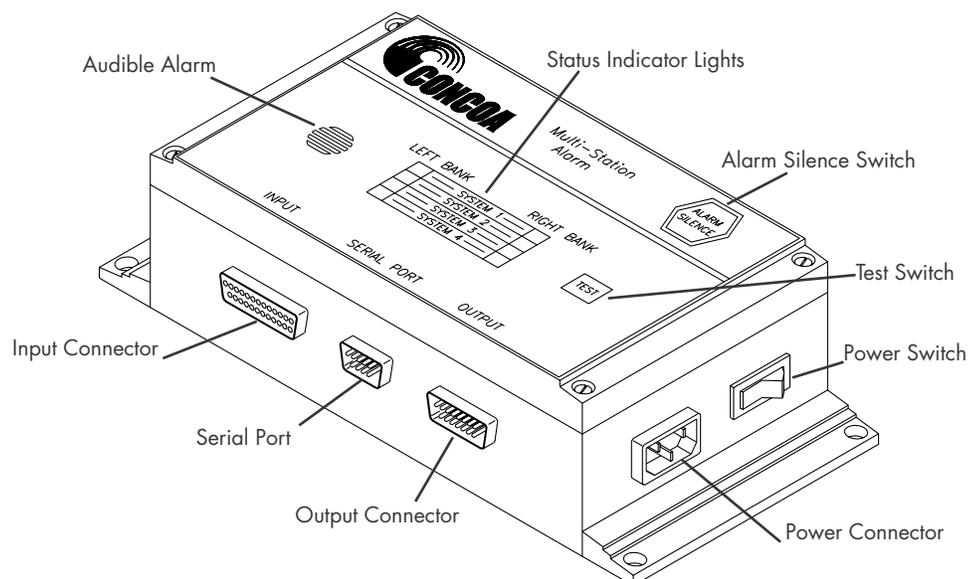

Figure 1
The front panel of the Remote Alarm consists of eight (8) status indicator lights, an “Alarm Silence” button, a “Test” button, and an audible Alarm. See Figure 1. In addition to the front panel, the right side of the Remote Alarm has a power ON-OFF switch and an IEC type connector where the AC power cable is connected. At the bottom of the Alarm are three (3) connectors where the Autoswitch, Serial Port and Output Devices are connected.